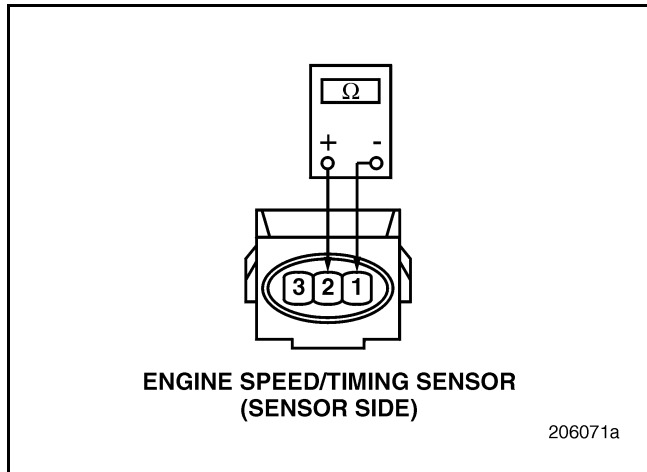

Figure 365
3. Measure the resistance between terminals 1 and 2 on the sensor side of the Engine Speed/Timing (RPM/TDC) Sensor harness connector (see Figure 365).